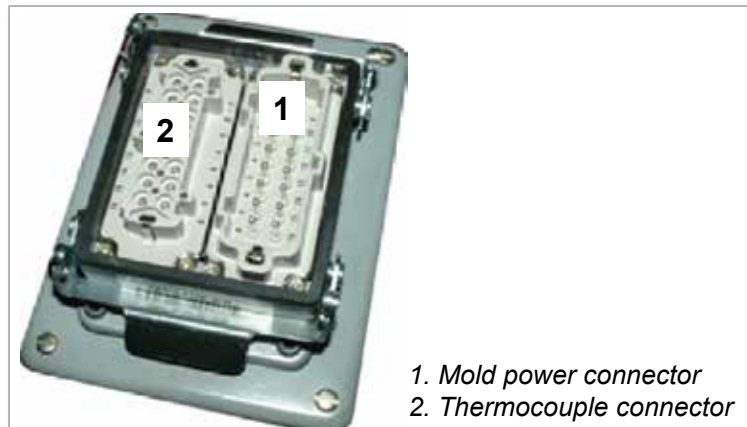

Figure 8-1 Mold plug
2. Measure the resistance between each pin of the mold power connector. See "Figure 8-1 Mold plug" and ground (mold base). The reading should be ∞ (infinity). Occasionally, the electric heaters accumulate moisture, which can reduce the resistance value to between 100 K Ω to 10 M Ω . The controller should be designed to remove this moisture during startup.
1. Measure the resistance between each pair of thermocouple wires on the mold's thermocouple connector. See "Figure 8-1 Mold plug".